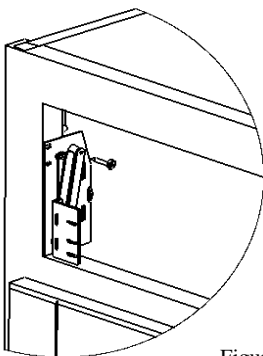

Figure 6
**5. Installing the Tilt-out Tray (Figure 6):** Install the tilt out hinge set (I) on the inside of frame. Continue to install the hinge to the drawer front (H). Finish by installing the trays on the back of drawer front.